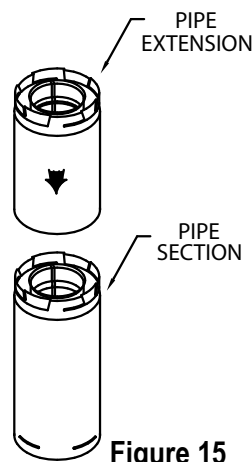

Figure 15
**(1)** If exact lengths or distances must be met between Elbow offsets or elsewhere, use the Pipe Extensions to adjust onto standard Pipe Sections **(Fig. 15)**.